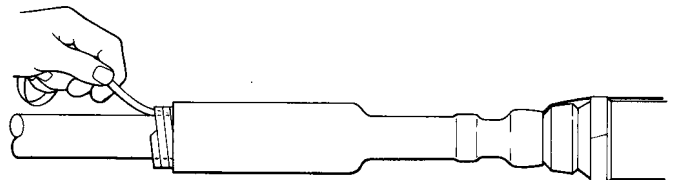

Figure 8
1. Position each PST so its leading edge will butt against end cap step (Figure 8). Remove core by unwinding counterclockwise and tugging occasionally.